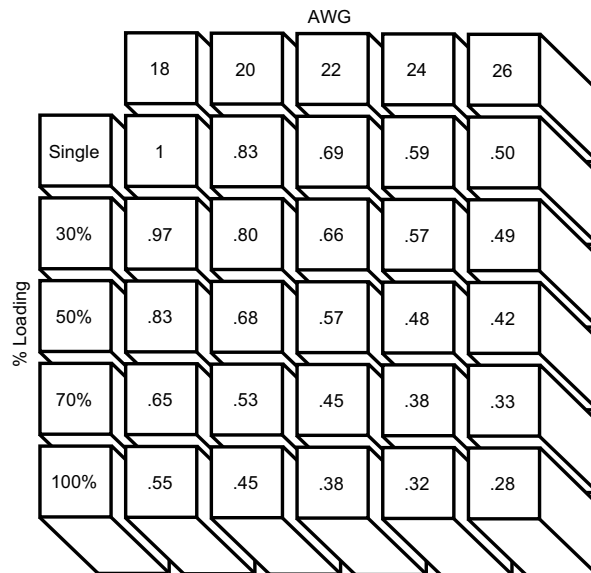

Figure 2
- Figure 2, the rating factor for 50% loading and 20 AWG [0.6 mm²] wire is 0.68.